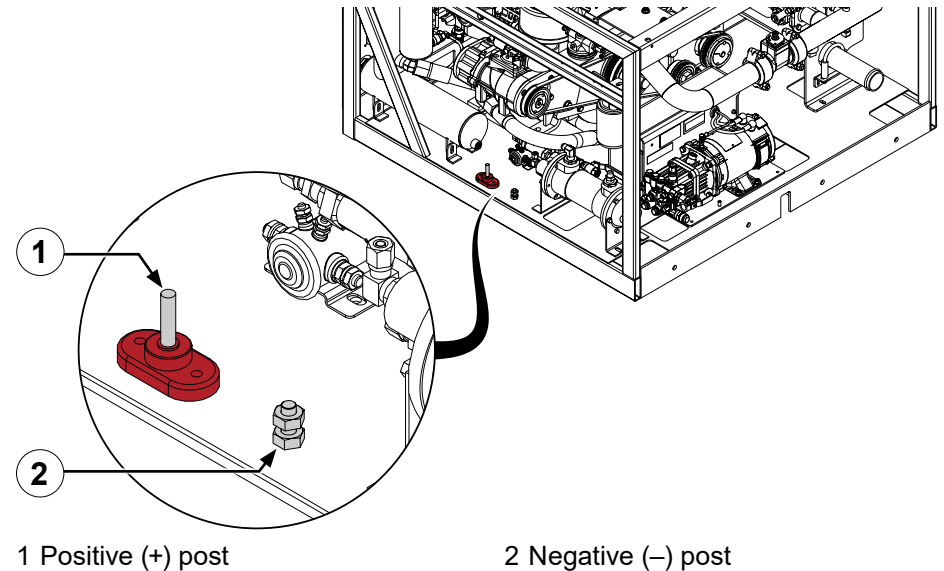

Figure 18
- 1 Locate the terminal posts on the compressor side of the module (**Figure 18**).